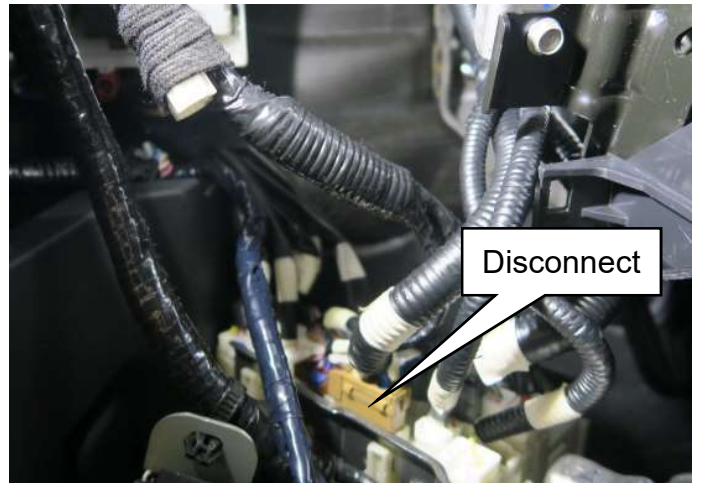

Figure 15
- Disconnect the brown harness connector from the fuse block. (Figure 15)